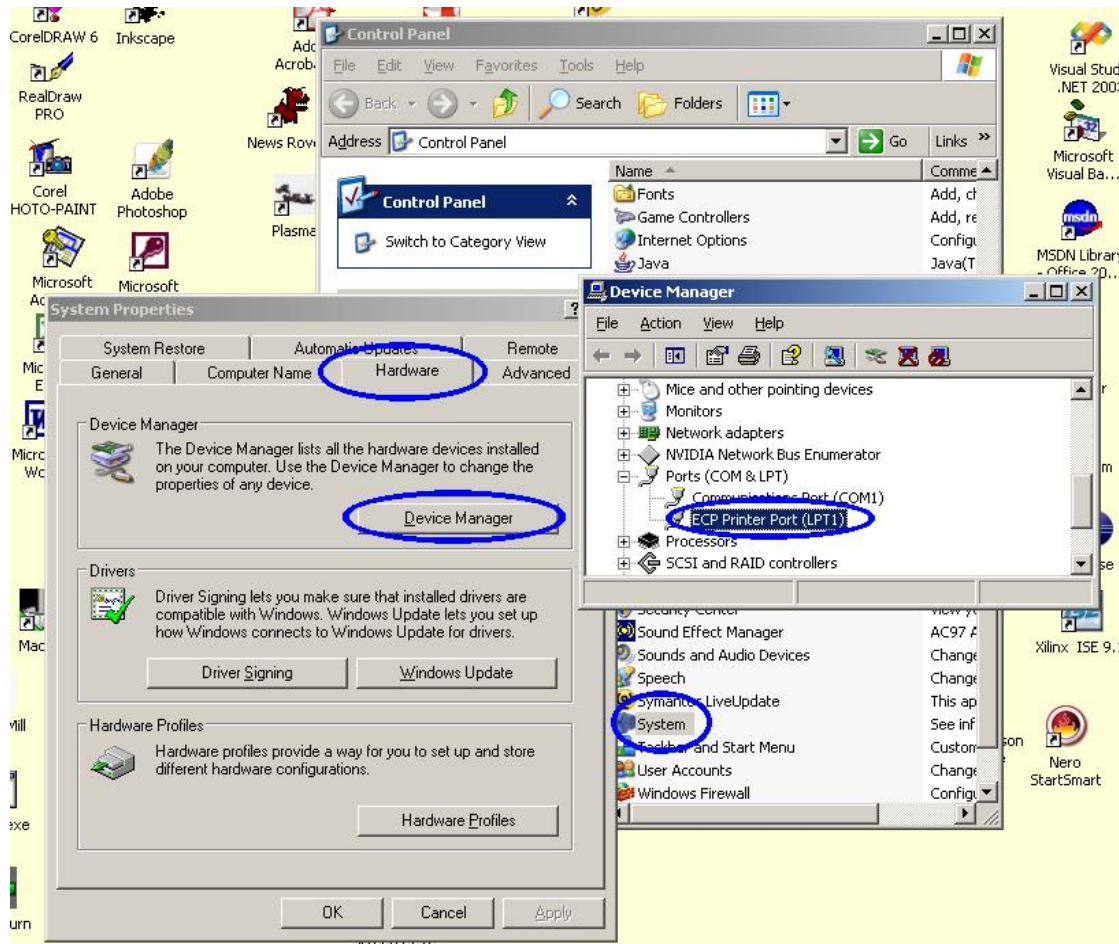

Figure 9.12 – Finding printer port
6. Find the “Ports (COM & LPT)” icon and click on the plus sign (figure 9.12 shows the result of these steps).